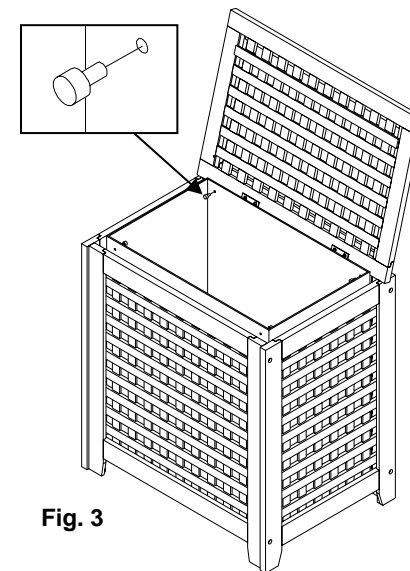

Fig. 3
3. Place canvas bag (G) into the unit . And then insert the wooden hanging (J). (see fig 3.)